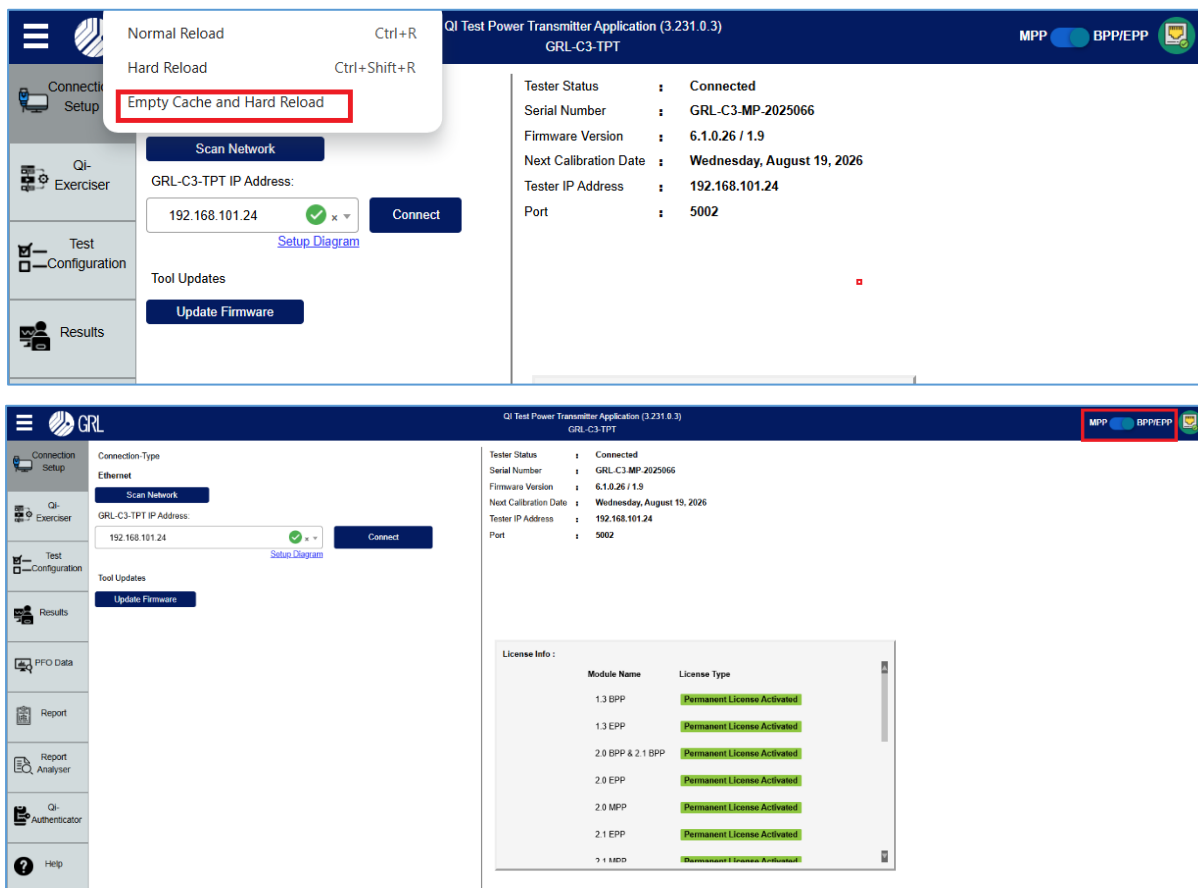

FIGURE 11.3: CLEAR BROWSER CACHE AND DISPLAY CORRECT SOFTWARE VERSION
6. Open the GRL-C3-TPT application and click on the “Refresh” icon above the browser menu and select **Empty Cache and Hard Reload** to clear the browser cache, and to display the correct version of software. See Figure 11.3 below.